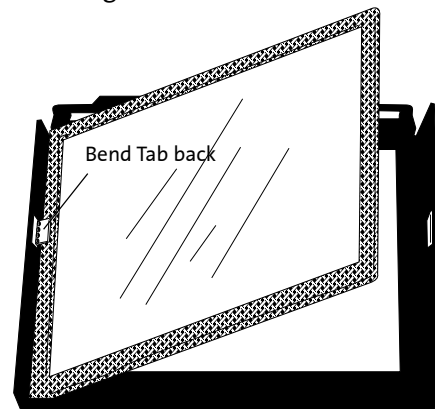

Figure 27. Glass removal.
1. Using a nail punch inserted into the perf holes, carefully pry the two glass retainer tabs back. See fig. 27.